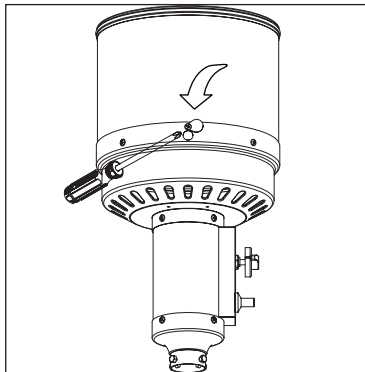

Figure 1
1. Turn the control knob to the "OFF" (O) position.
3. Open viewing hole by sliding cover to either side (Figure 1).